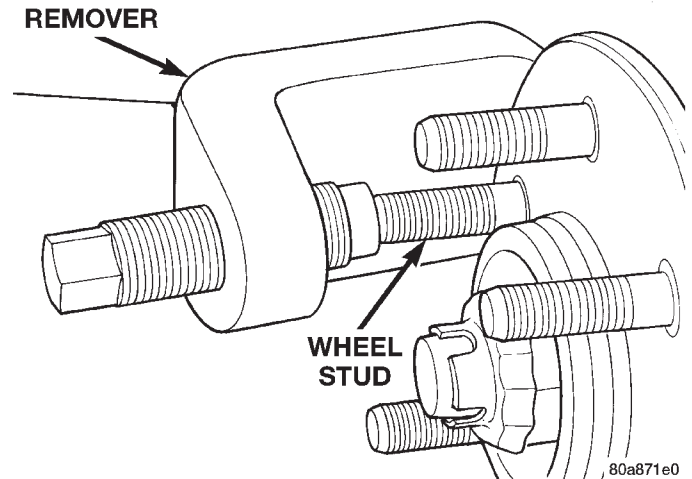

Fig. 13 Wheel Stud Removal
- (1) Raise and support vehicle.
- (2) Remove wheel and tire assembly.
- (3) Remove brake caliper and rotor, refer to Group 5 Brakes for procedure.
- (4) Remove stud from hub with Remover C-4150A (Fig. 13).